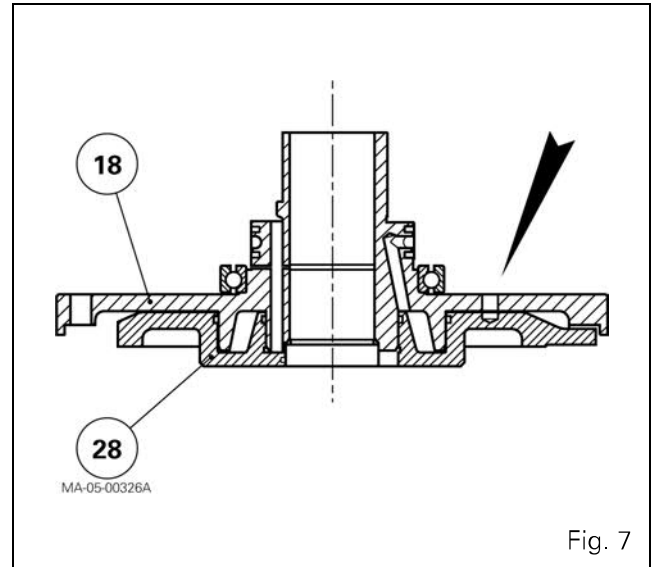
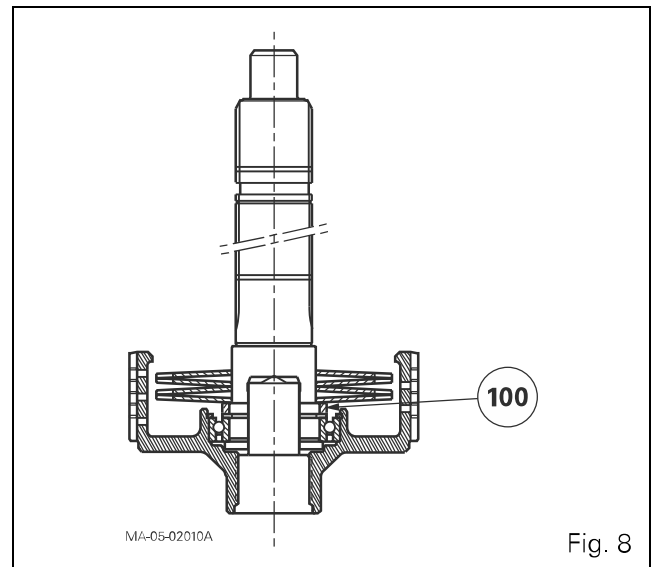
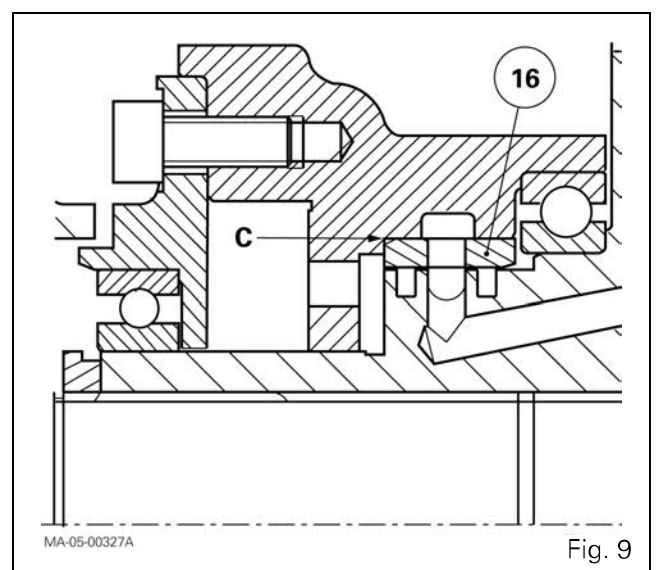

Fig. 7
Fig. 8
Fig. 9
The angular position of the piston depends on the position of unit (18) lubricating ports. Align the indexing holes drilled in the unit and the piston (Fig. 7). To align, use a pin of a suitable diameter. Complete the installation of the piston by gradually and alternately striking around its top rim with a plastic mallet. Check that no pieces of the seal remain after assembly.
42. Using a suitable tool, force fit bearing (22) on shaft (19), the seal side facing towards the reverse clutch. Fit the circlip (21).
43. Put the assembly (shaft, bearing, circlip) in the hub (27). Fit snap ring (23).
44. Refit the ring (100) and the Belleville washers as shown in Fig. 8.
45. Assemble unit (18) fitted with the piston (28) on shaft (19).
46. Compress the Belleville washers using the same procedure as in operation 28. Position the ring (5), aligning two of the flat sections with those of the unit (18). Replace the rear snap ring (9) and correctly position it in the bottom of the groove.
48. Check that the seal rings (15) turn freely in their grooves. Fit the seal rings, lightly coated with miscible grease, making sure that they do not protrude beyond the rim of unit (18).
49. If necessary, fit the 1.5 bar valve (73) and tighten to a torque of 47 - 54 Nm. Insert ring (16) using a suitable fixture, with the chamfer "C" in the direction shown in Fig. 9.
50. Lubricate the ring. Assemble pump unit (1) on unit (18).
51. Lubricate pump (14) with transmission oil and position it aligning the flats of the rotor with those on the unit (18).
52. Manually check the angular movement of the rotor on the flat sections of unit (18).
53. Fit the bearing (12) on the cover (2) of the pump. Fit the cover. Install circlip (11) and screws (13) and tighten to a torque of 25 -35 Nm.
54. Lubricate and install a new assembly (O'ring (7) and anti-extrusion ring (8)). Slide on the splined ring (6). Fit a new front snap ring (9).
55. Soak the discs (29) in a transmission oil bath for approximately 1 hour. Check that they are correctly impregnated.